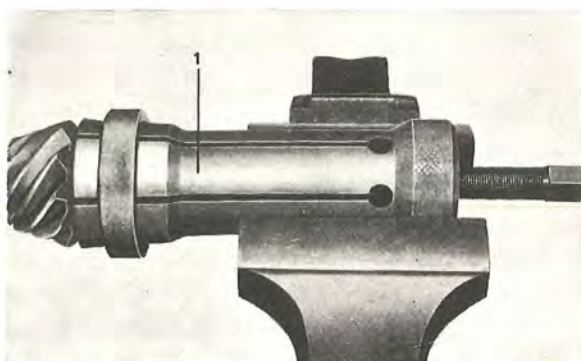
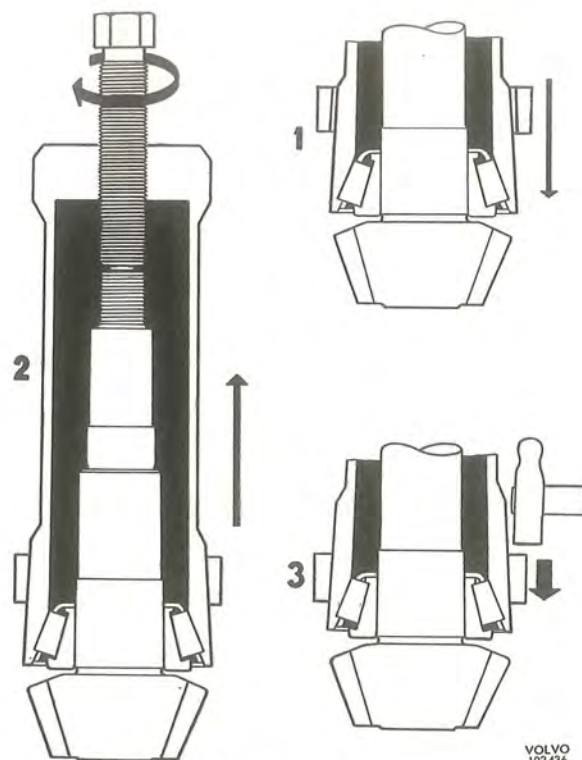

Fig. 4-79. Removing the rear pinion bearing
Fig. 4-80. Puller fitted
11. If necessary, pull off the rear bearing from the pinion with puller SVO 2844, see Fig. 4-79. The puller is fitted in the following way (see Fig. 4-80): Move the puller down over the rollers and press down the lock ring. Then pull up the puller with the bolt until the rollers lie flush with the edge of the inner race and the edge on the puller. Tap out the lock ring with a hammer.